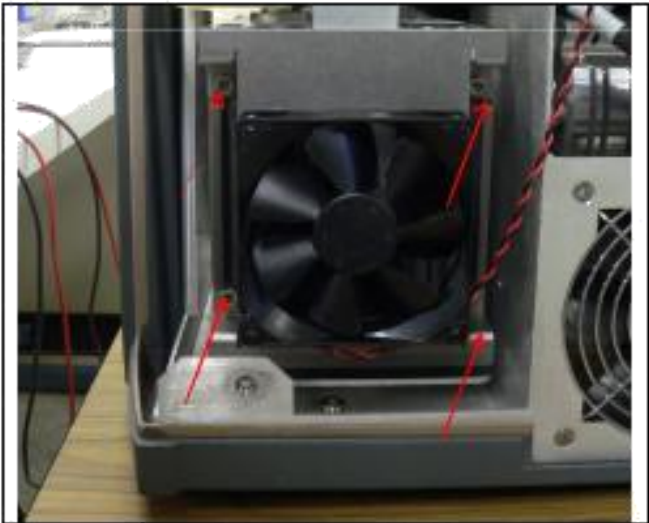

Figure 5: Fan Assembly Mounts
- 8. Remove the fan assembly bracket and lay it aside (Figure 5: Fan Assembly Mounts).